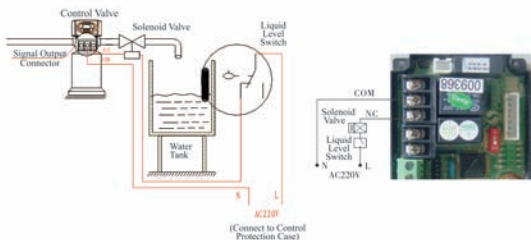

Figure 3-1 Wiring of Solenoid Valve on Outlet
**Instruction:** If system requires no hard water to flowing from outlet in regeneration cycle ( Mainly for no hard water flow out when valve is switching or valve in backwash or brine drawing status), a solenoid valve could be installed on outlet, the wiring refers to Figure 3-1.